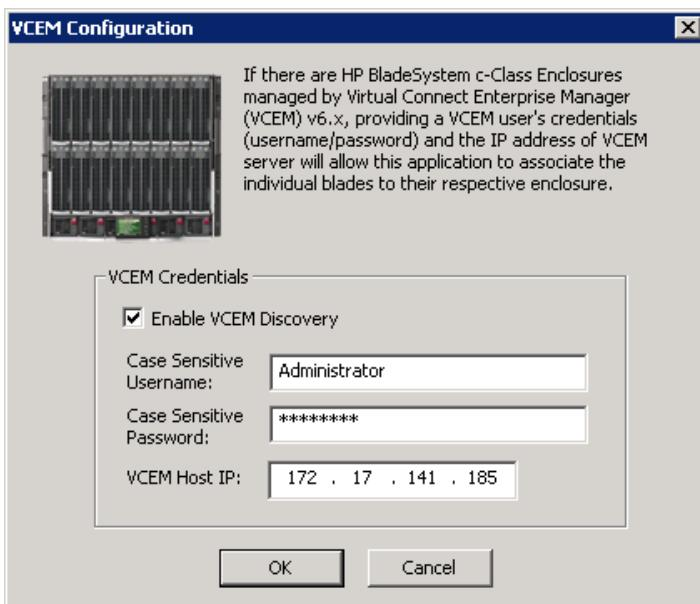

Figure 85 SCM VCEM Configuration
2. Open the VCEM Configuration dialog box (Figure 85).